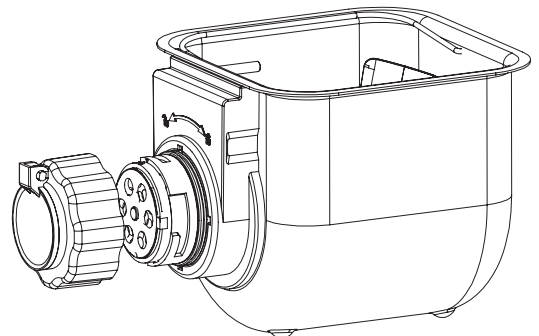

Fig. 6
5. Install the Extrusion discharge cap as shown in Fig.6. Twist to the closed position to lock into Place. Note the Closed/Open markings.